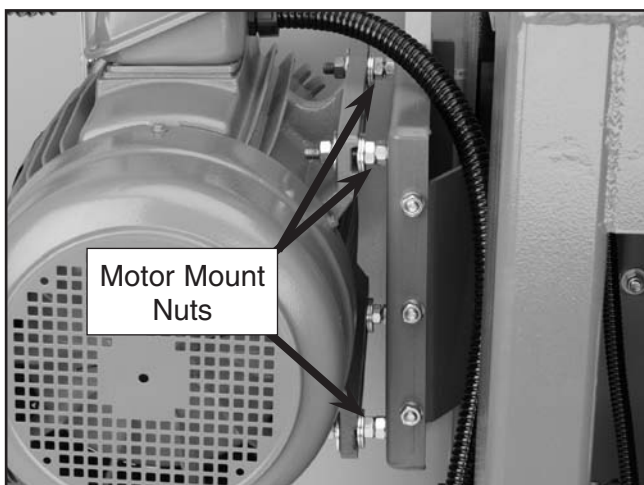

Figure 66. Motor mount nuts for tensioning.
3. Tension the V-belt by adjusting the motor mount nuts (see **Figure 66**) in or out.